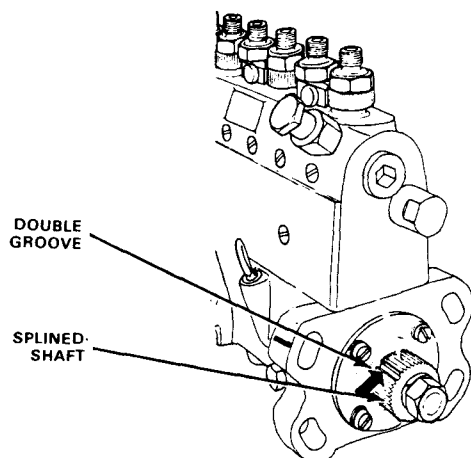

FIG. 12 Removing Injection Pump From Engine (SSD-655)
4. Withdraw the pump from its driving gear. Remove the pump mounting gasket from the timing gear case (Fig. 12).
2. Install a new gasket and sealer on the pump mounting flange. Engage the double groove in the pump splined shaft with the double tooth in the drive coupling and slide the pump into place (refer to Fig. 12).